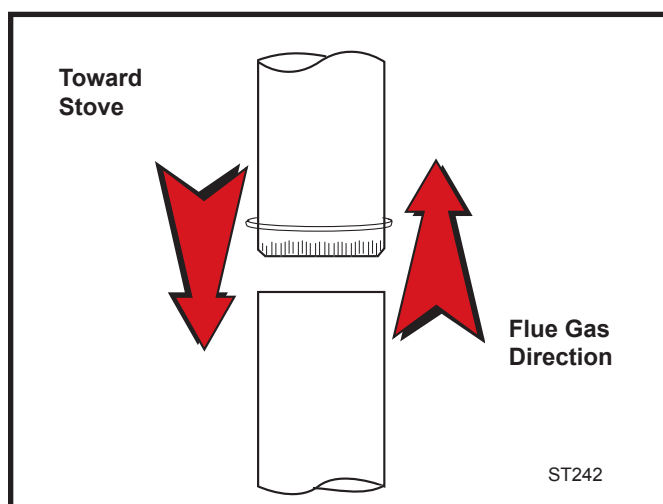

Fig. 5 Crimped sections always point toward the stove so that any liquid condensation will not leak out.
1. Insert the crimped end of the first section into the stove's flue collar, and keep each crimped end pointing toward the stove (Fig.5). Using the holes in the flue collar as guides, drill 1/8" (3 mm) holes in the bottom of the first section of chimney connector and secure it to the flue collar with three #10 x 1/2" sheet metal screws.